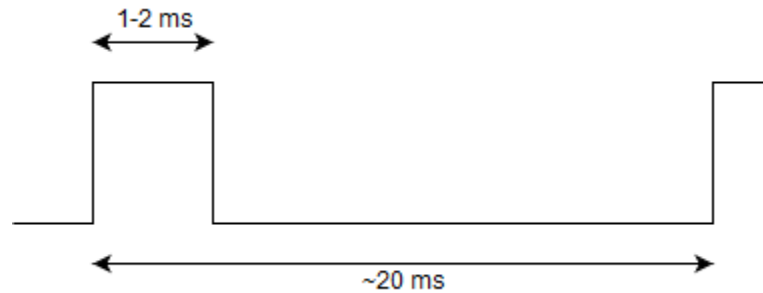

FIGURE 13. PWM TIMING
- A servomotor is connected to the GND and +5V pins of the Launchpad at the bottom right of the board. The servomotor is controlled via PWM to satisfy the timings shown in Figure 13.